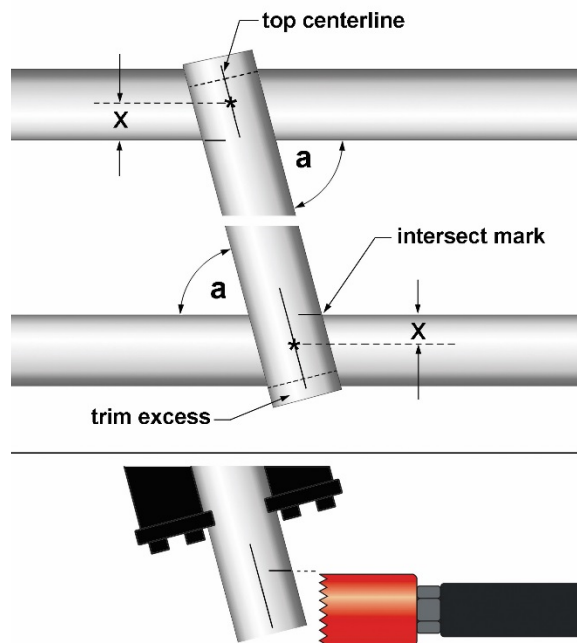

Figure 10-2: single or double end notch
See Figure 10-2.
1. Position workpiece against structure at the angle at which it will be welded. Measure the acute angle (a), which will also be the angle set on the vise scale. See Figure 10-2.
- Determine top point and centerline, and mark these on tube (Figure 10-2).
- Use handwheel to bring hole saw forward to align edge of hole saw with intersect mark on tube. See Figure 10-2. When positioned, tighten tube securely in vise to prevent deflection during cut.